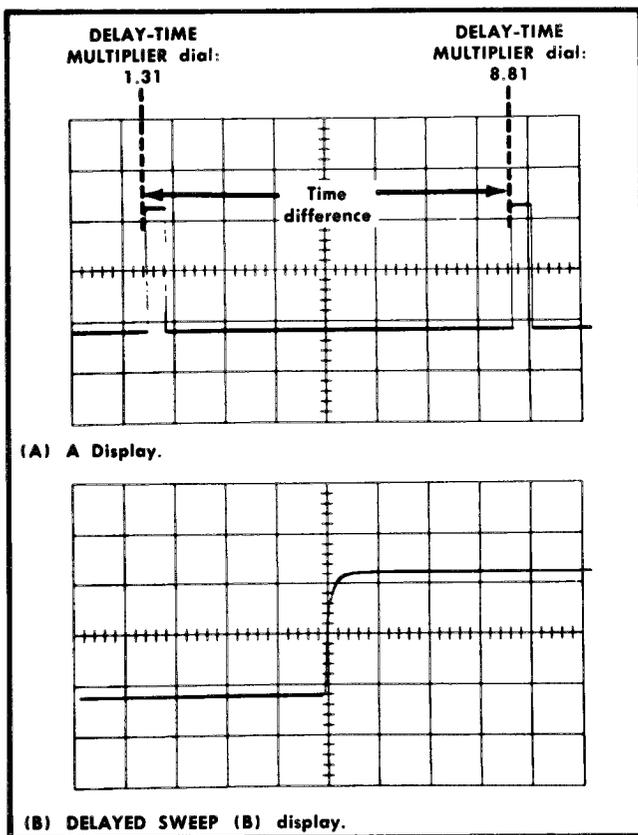

Fig. 2-20. Measuring time difference using delayed sweep.
8. Set the HORIZ DISPLAY switch to DELAYED SWEEP (B).
**Example.** Assume the first dial setting is 1.31 and the second dial setting is 8.81 with the TIME/DIV switch set to 0.2 microsecond (see Fig. 2-20).